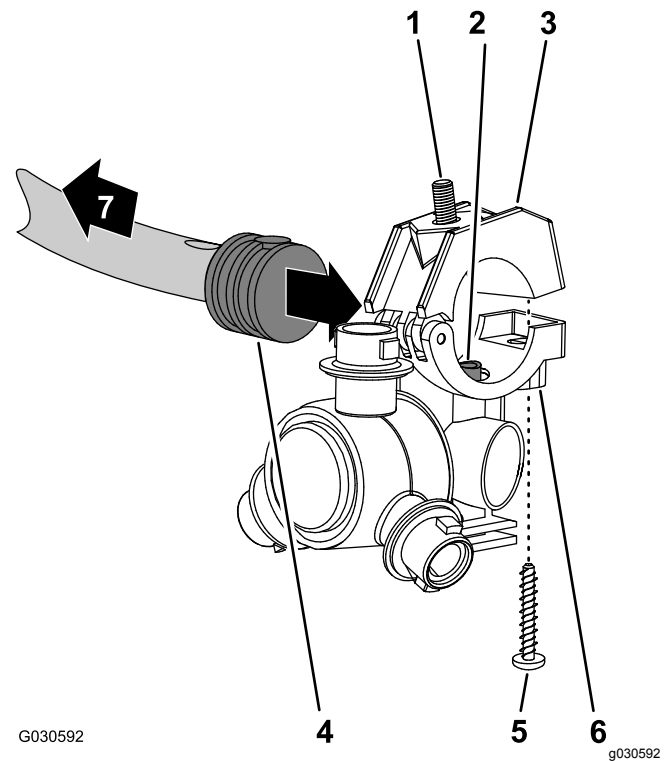

Figure 143
1. Align the transfer tube in the saddle of a sprayer nozzle (Figure 143) with the hole in the side of the single barbed-hose shank (1/2 inch).
2. Close the upper clamp half around the barbed-hose shank and secure the clamp half and spray nozzle body (Figure 143) with the stainless steel screw (#12 x 1-1/4 inches); torque the stainless steel screw to 14 to 18 N·m (20 to 25 in·lb).